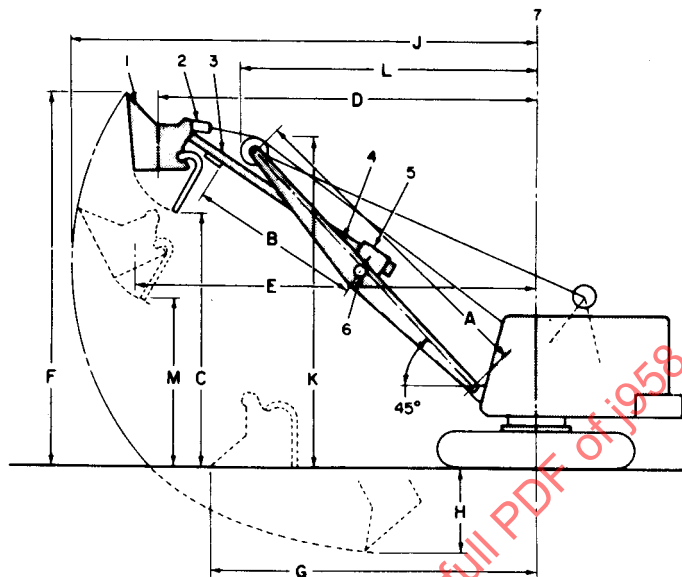

FIGURE 4—SHOVEL ATTACHMENT
5. **Shovel Attachment**—See Figure 4.